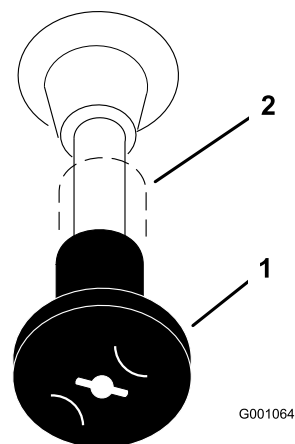

Figure 11
4. Move the choke control to the on position before starting a cold engine (Figure 11).
7. After the engine starts, move the choke to off (Figure 11). If the engine stalls or hesitates, move the choke back to on for a few seconds, then move the throttle lever to desired setting. Repeat this as required.